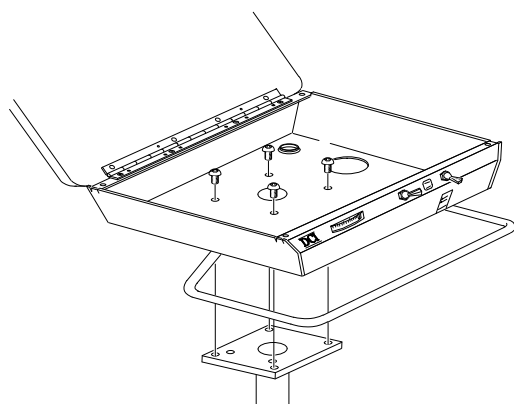

Figure 2
8. To assemble the control head to the cart (see *Figure 2*):